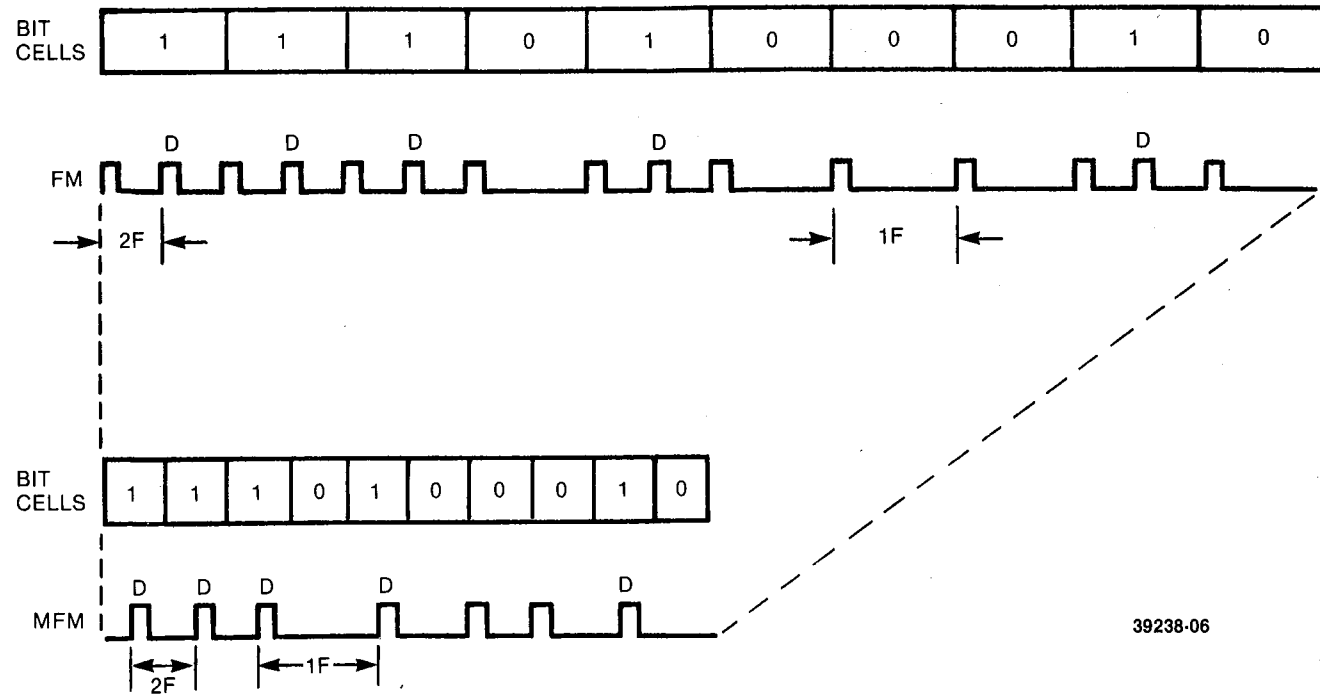

FIGURE 1-7. FM AND MFM CODE COMPARISONS
The encoding scheme of the recorded data can be either FM or MFM. FM encoding rules specify a clock bit at the start of every bit cell and a data bit at the center of the bit cell if this cell contains a one data bit, (see figure 1-7). MFM encoding rules allow clock bits to be omitted from some bit cells with the following prerequisites:
- The clock bit is omitted from the current bit cell if either the preceding bit cell or the current bit cell contains a one data bit. See figure 1-7.